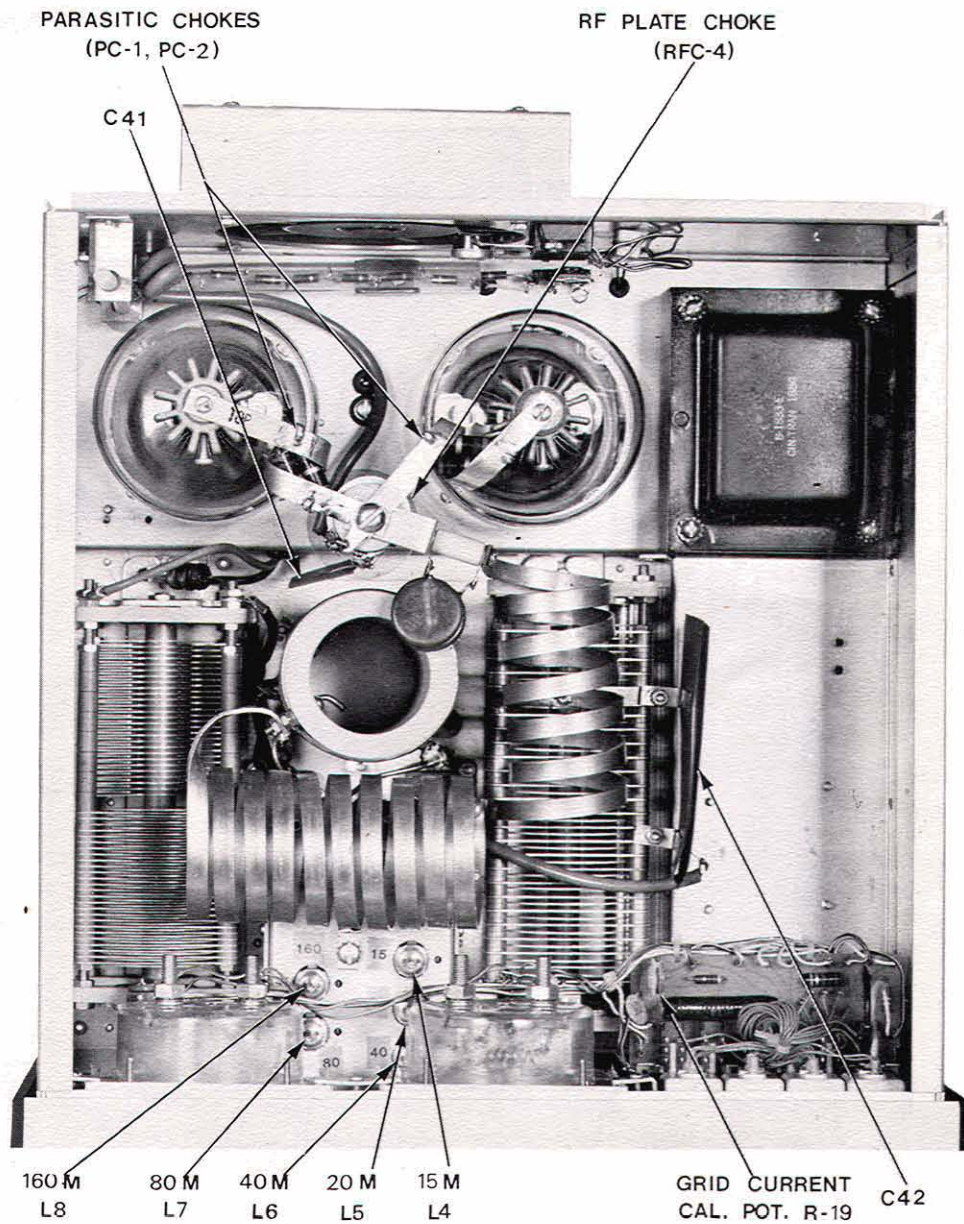

Fig. 5-1 Component Locations, Top View
Refer to figures 5-1 and 5-2 as required to locate the components requiring adjustment.
- k. Refer to figure 5-1. Turn the slug in the correct input coil for a minimum reflected power reading on the SWR bridge.